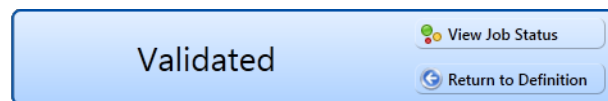

Figure 10-60. Validated Message
- 14 When the validation process completes and the following message displays (Figure 10-60), click  **View Job Status** to open the *Job Status* window or  **Return to Definition** to open the *Definitions* window.